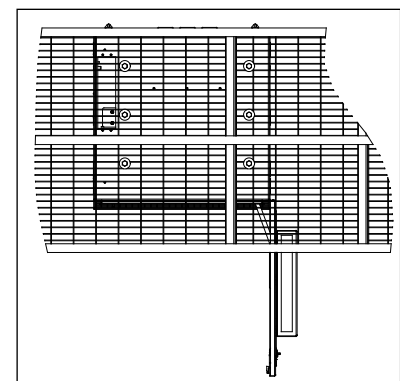

Figure 9 Installing on a Platform
- Observe local building practices for pad construction. Charles recommends that the pad should extend a minimum of 8" beyond the CUBE base on all sides (Figure 9)
9. To secure the CUBE to a steel grate platform, install 1/2" corrosion-resistant Grade 5 steel hardware through the cabinet and platform grate. Ensure that the bolts are long enough to extend past the nut on the bottom side of the platform grate. For all mounting applications, for each bolted joint, use a minimum Ø1 inch fender washer on the inside of the cabinet (and underside of the platform grate for platform mounting) with a lock washer. The washer on the underside of the platform must be large enough to cover both adjacent bearing bars as shown in Figure 9.